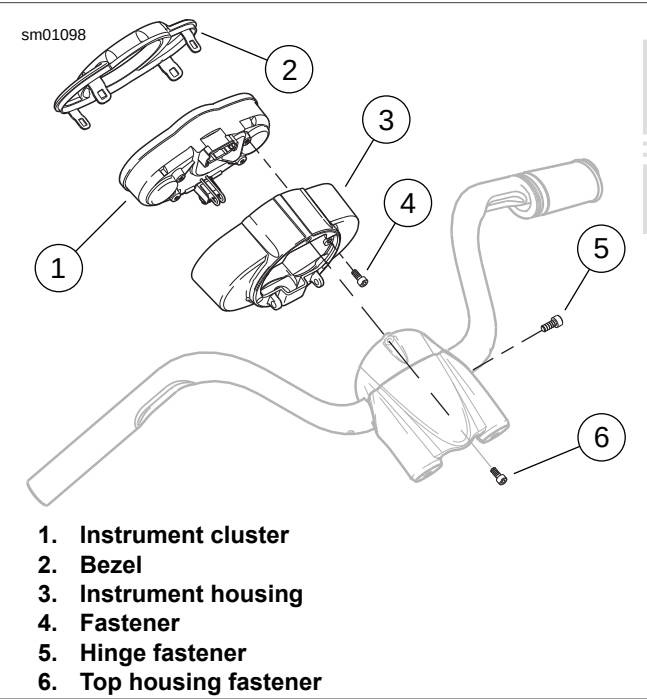

Figure 7-37. Instrument Cluster (typical)
2. See Figure 7-37. Remove fastener (6) at top of instrument housing.
5. See Figure 7-37. Loosen and remove hinge fastener (5) and slide housing off of hinge peg.
1. See Figure 7-37. Assemble bezel, instrument cluster and housing. Install and tighten fasteners (4) to 1.3-1.9 Nm (12-16 in-lbs).
2. Fit hinge of housing to peg on handlebar clamp. Install and tighten fastener (5) to 2.2-2.8 Nm (20-24 in-lbs).